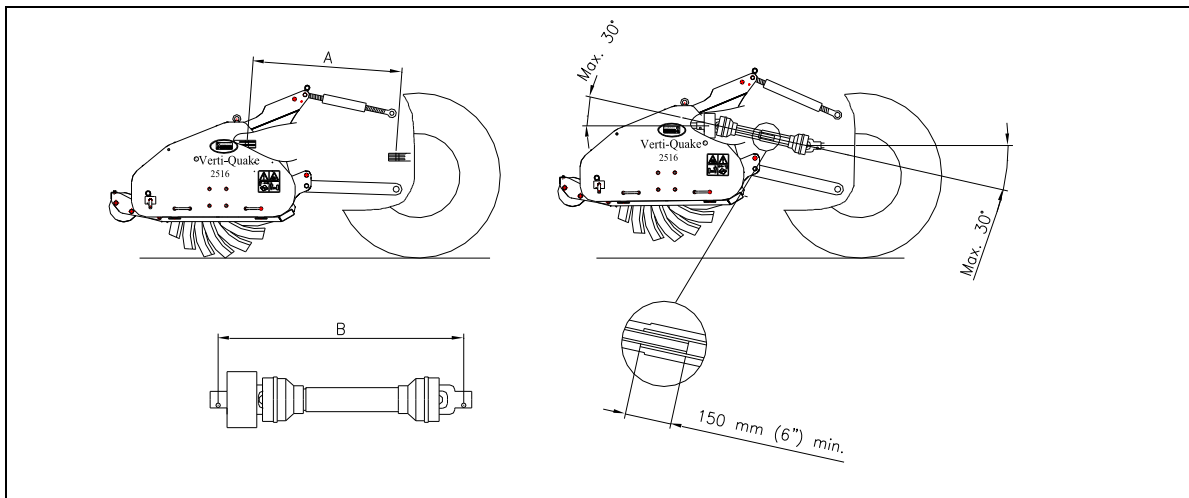

Fig. 8
4.1 LENGTH OF THE PTO (fig. 8)